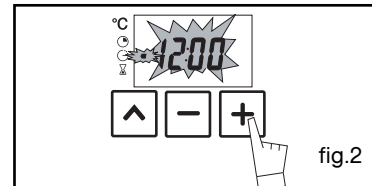

fig.2
- Press the + or – button to set the desired cooking end time (fig. 2).
- Press the “^” button to confirm or wait a few seconds (fig. 2).